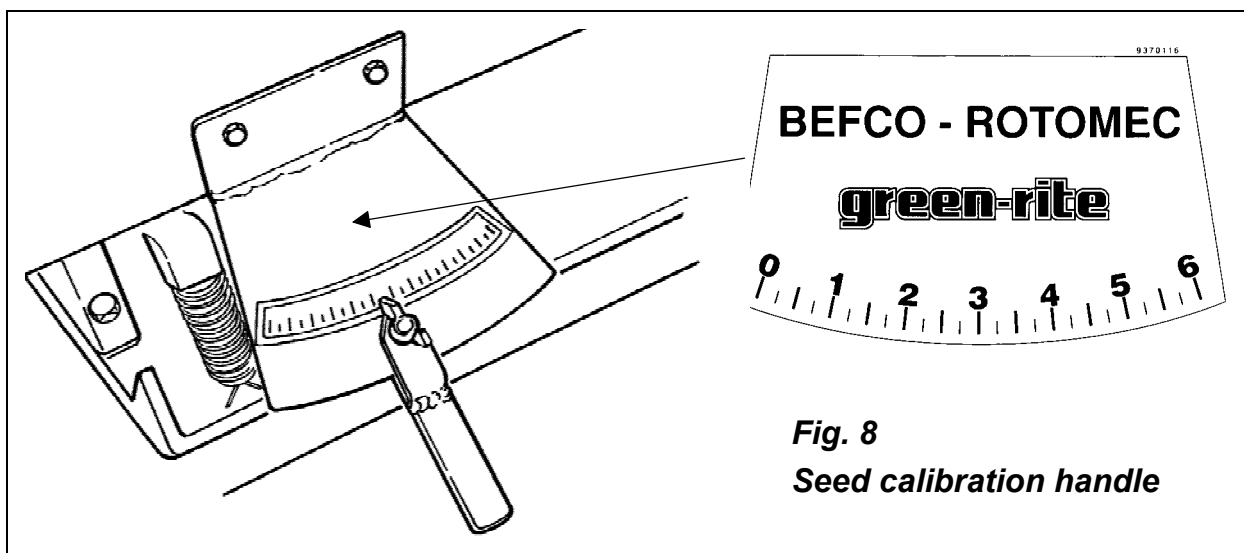

Fig. 8
agitator to break-up clods and ensure free flow through the distribution system. On the bottom of the hopper are a certain number of rectangular slots (8, 9 or 11 depending on the width of the Green-Rite) to allow material passage. The **seed cups** mounted under the hopper, which are made entirely of non-corrosive material (nylon and fibreglass), contain an internal gear that rotates inside a housing. The amount of this gear inside the housing is regulated by a calibration handle on the rear of the hopper. The position of the handle, which has a scale of 0 to 6, determines the amount of seed collected (**see fig. 8**). The seed cups are a force feed system driven by the roller.
The material is held inside the groove of the gear until the groove rotates to the opening at the bottom of the hopper. This rotation is driven by the roller as it moves along the ground. When the handle is in position "0" the gear is completely outside the seed cup and no seed is collected, with the handle in position "6" the gear is totally inside the cup and distributes at its maximum potential (**see fig. 8**). A secondary regulation is the lever located on the side of each cup housing. This controls the position of the cleanout gate (top, middle, and bottom). Its position is determined by the size and shape of the material being dispersed (**see fig. 9**). The top position is for the smaller seeds, middle for the medium sized seed and bottom for larger seeds. Attached to the bottom of each cup is flexible tubing that the material flows through. As the material exits, it hits a split ring which divides the flow until it hits a splash pan and uniformly spreads over the entire working width of the Green-Rite.
5. Move the calibration handle located in the rear of the hopper to a position between 1 and 6 (**see fig. 8**).